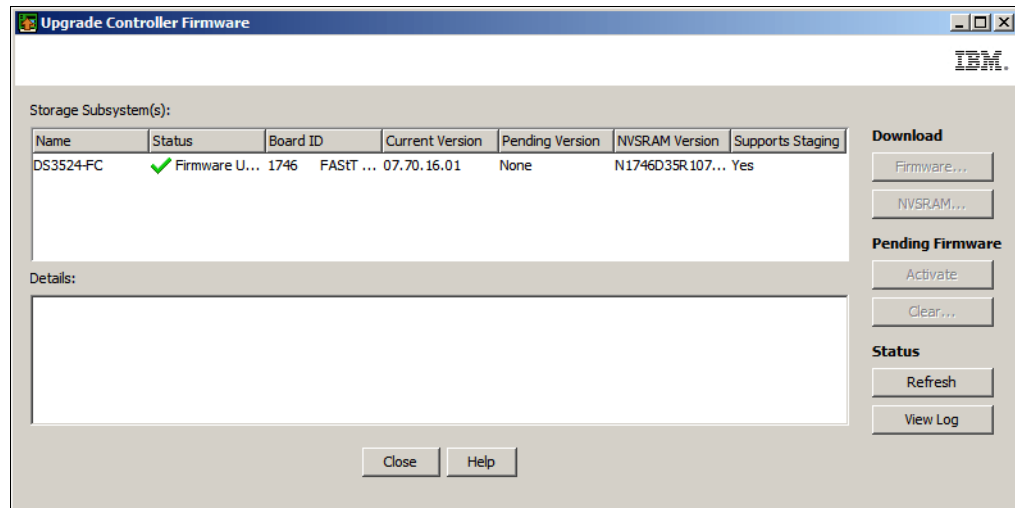

Figure 14-45 Successful firmware transfer and activation
- Figure 14-45 on page 362 shows the status after the firmware has been transferred and activated.